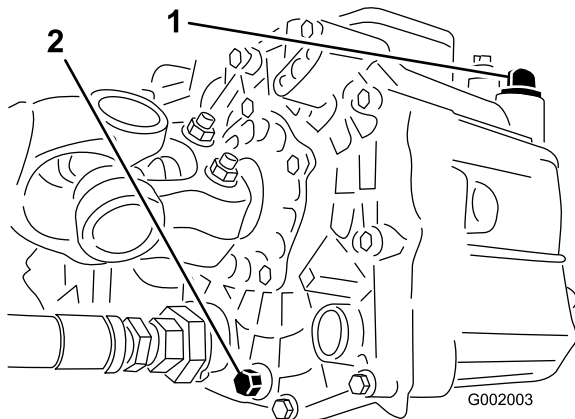

Figure 68
- Remove the drain plug from the side of the reservoir and let the hydraulic fluid flow into the drain pan (Figure 68).